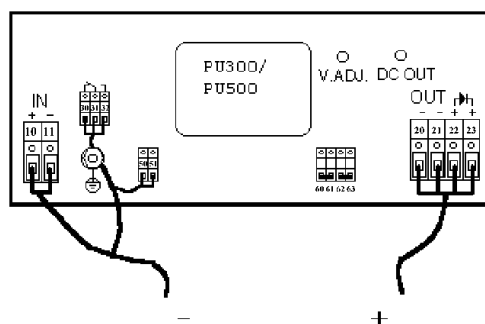

Figure 7. Output to case isolation voltage test.
4. Connect your isolation tester between output and case. See *Figure 7*. Raise the voltage of the isolation tester from 0 to 2000Vd.c. Check that the leakage current does not exceed 5 μ A. The voltage should not be applied for more than a few seconds or the Y-capacitors might be damaged.